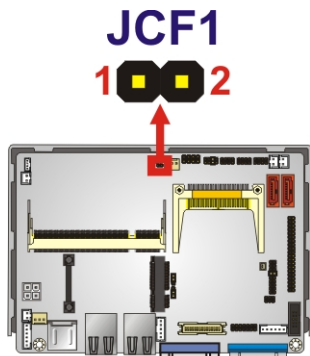

Figure 4-3: CF Card Setup Jumper Location
- Jumper Location:** See **Figure 4-3**
The CF Card Setup jumper location is shown in Figure 4-3.